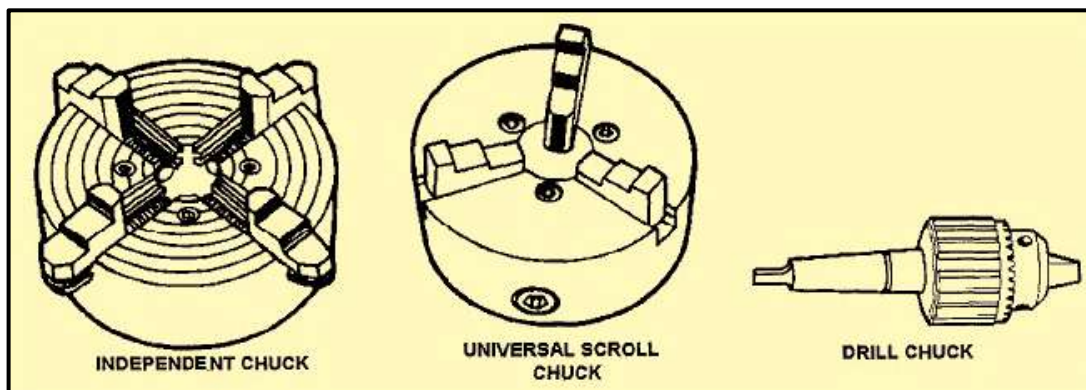

Figure 7-19. Lathe chucks.
**The Universal Scroll Chuck:** Generally have three jaws which move in unison as an adjusting pinion is rotated, used **to hold** and automatically center **round or hexagonal** workpieces. Having only three jaws, the chuck **cannot** be used effectively to hold **square, octagonal, or irregular shapes**. The advantage of the universal scroll chuck is its ease of operation in centering work for concentric turning. This chuck is not as accurate as the independent chuck, but when in good condition it will center work within **0.002 to 0.003 inches** of runout. (Figure 7-19).
steel jaws which are moved together or apart by adjusting a tapered sleeve within which they are contained. The drill chuck is capable of centering tools and small-diameter workpieces to within **0.002 or 0.003 inch** when firmly tightened. (Figure 7-19).